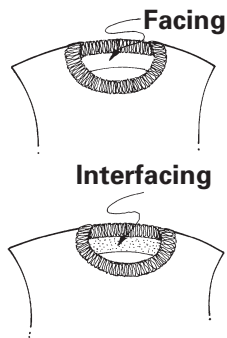

Fig. 23-5
- Face the area with matching fabric or fusible interfacing before serging. (Fig. 23-5) If your pattern does not offer a facing piece, trace the neckline opening shape of the pattern and create a piece of facing about 2 inches (5 cm) wide. Pin the facing in place and serge.